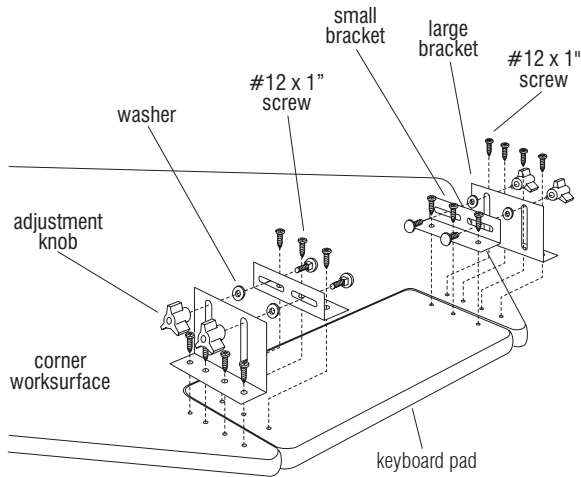

Figure 3
- A. Attach two small brackets to the keyboard pad by first aligning holes in the keyboard pad. Insert six #12 x 1" screws, three per small bracket, but do not tighten completely (Figure 3).
- B. Attach the two large brackets to the pre-drilled holes in worksurface with four #12 x 1" screws per bracket, but do not tighten completely (Figure 3).
- C. Assemble and tighten four adjustment knobs, connecting the small brackets on the keyboard pad to the large brackets on the corner worksurface. These knobs consist of carriage bolt, washer and tightening knob for each set (Figure 3).